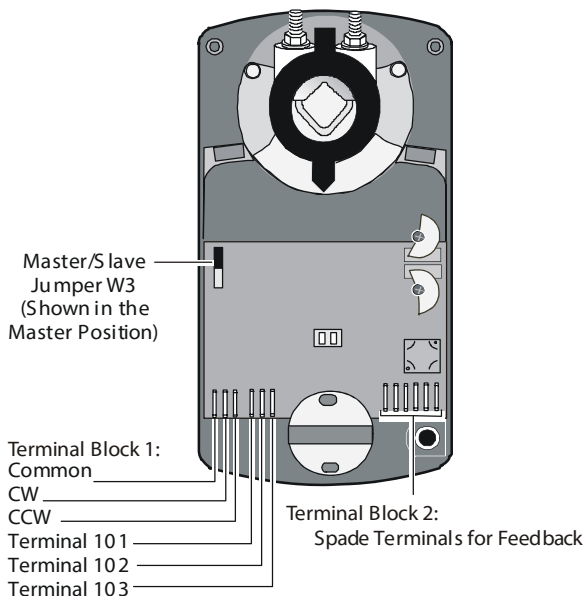
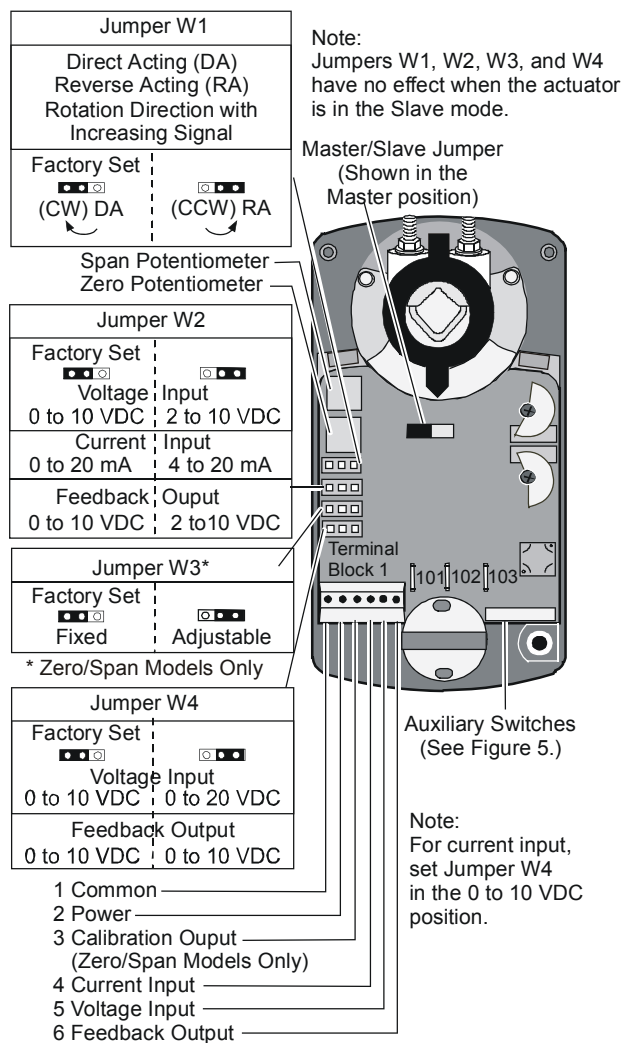

Figure 7: Settings on Floating Models
Figure 8: Settings on Modulating Models
The Master/Slave Jumper is factory set in the master position. Determine the method for mounting the two actuators in tandem: front-to-back (Figure 7 shows the front view) or back-to-back, and proceed as follows:
2. Connect Terminal 101, Terminal 102, and Terminal 103 from the master actuator to the corresponding terminals on the slave actuator. (Refer to Figure 7 for D Series models and Figure 8 for DM Series models.)
- For D-Series, connect the input control signal to the common, CW, and CCW terminals on both the master and the slave actuators. (See Figure 7.)
Note: Set the master actuator jumpers on the modulating models according to the action and signal range desired before proceeding. (Refer to Figure 8 and the Setup and Adjustments, Calibration section.)
2. Move Jumper W1 from the factory-set DA position to the RA position. (See Figure 8.)
D-Series models come factory set with the Master/Slave Jumper in the master position and have no additional jumpers. Modulating models come factory set with Jumper W1 in the DA position. Additional jumpers factory set as follows: Jumper W2 is in the 0 to 10 VDC or 0 to 20 mA position, and Jumper W4 is in the 0 to 10 VDC position. (See Figure 8.)